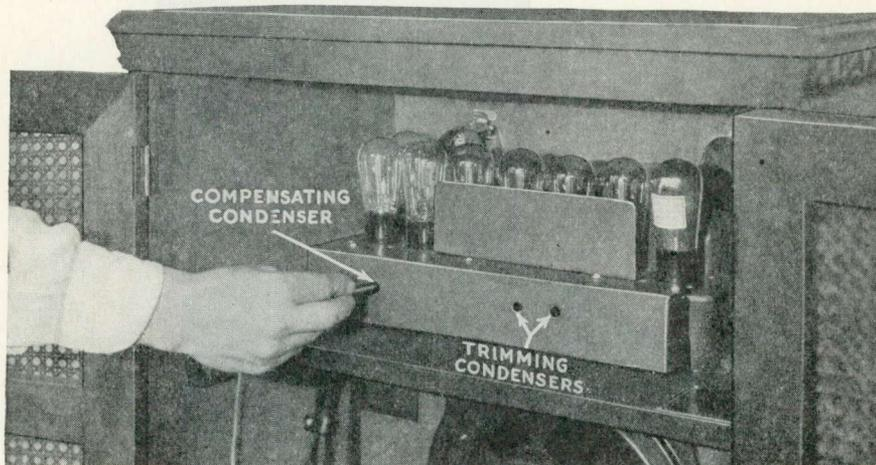

Figure 8—Method of adjusting trimming and compensating condensers
- (c) Now adjust the oscillator trimming condenser on the right, facing rear of Graybar 340 (Figure 8) with the long, thin, non-metallic screwdriver until a maximum deflection is obtained in the milliammeter.
- (c) Locate the position of the compensating condenser (see Figure 8).
- (d) Adjust trimming condenser on right (facing rear of Graybar 340, Figure 8) for a maximum reading.